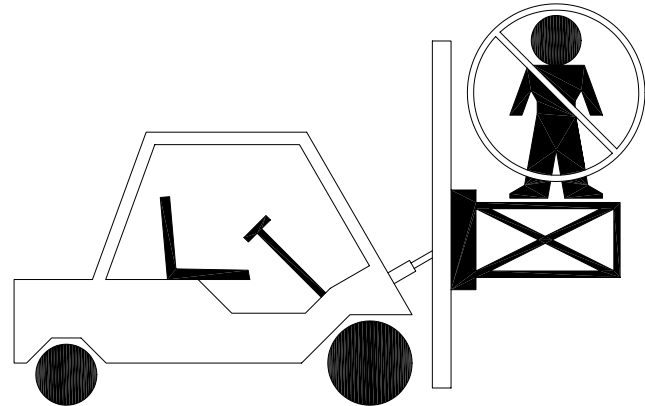

Figure 2-1
8. **Never** stand on top of material being raised, lowered, or transported. (Figure 2-1)